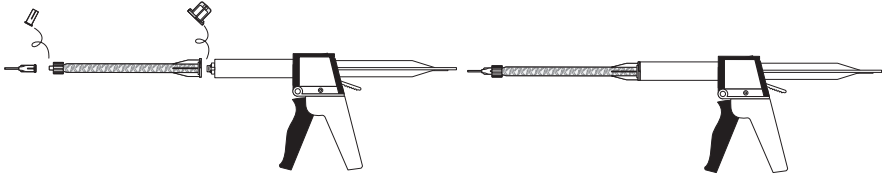

Figure 36 Attaching the Feed Tube and Syringe
4. Twist the feed tube onto the cartridge and attach the syringe tip to the feed tube (Figure 36 on page 63).